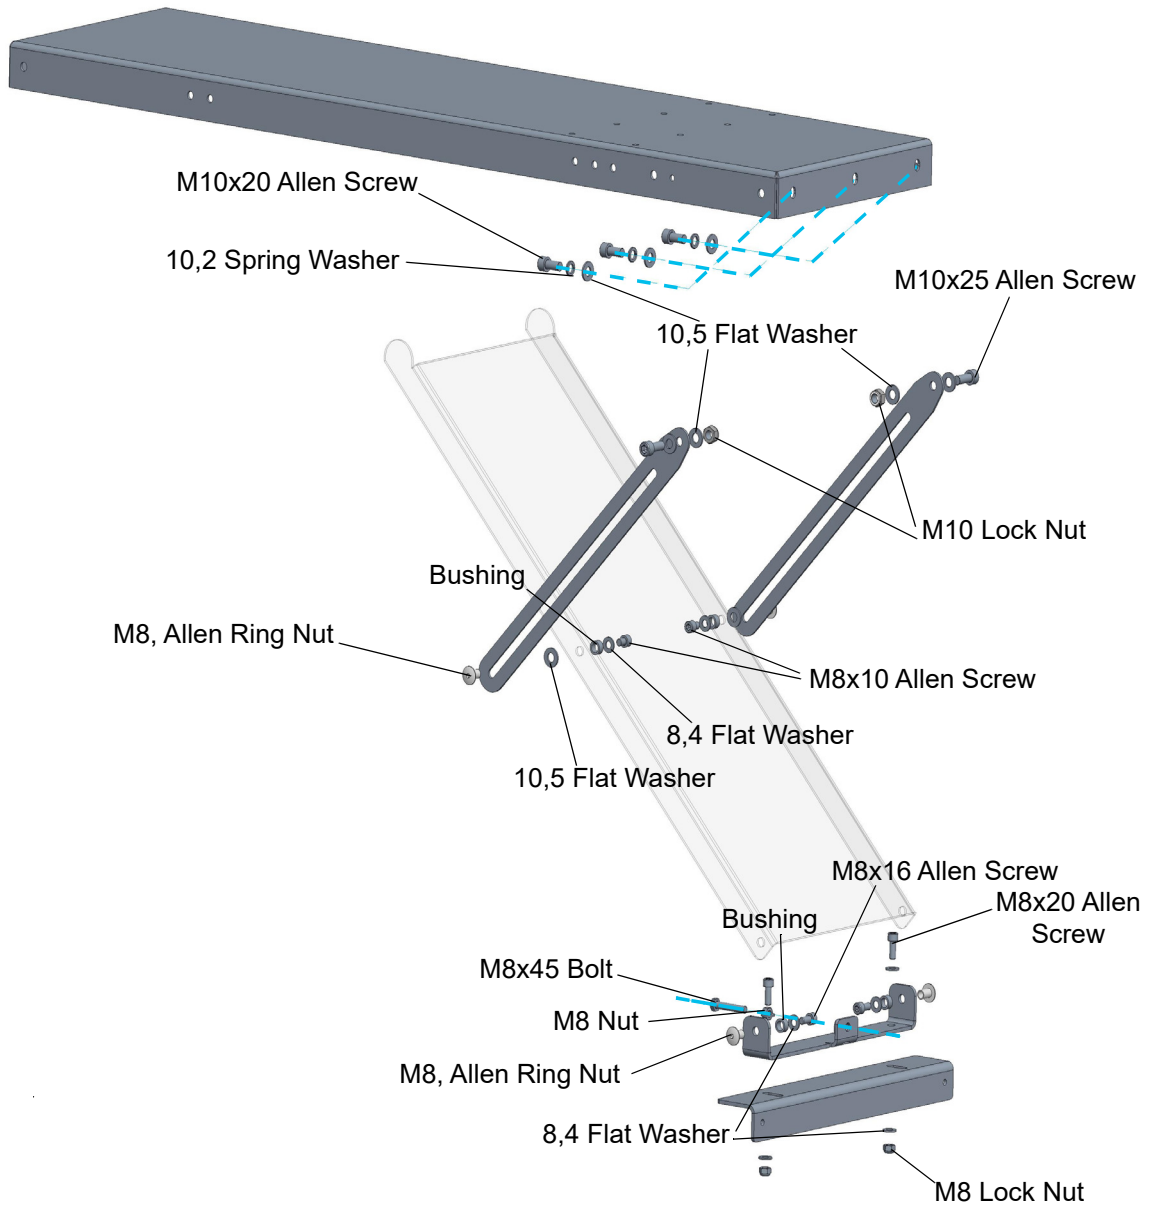

FIG. 3-5
1. Mount the optional table using the parts and fasteners supplied according to the figure 3-5.
See figure 3-5.